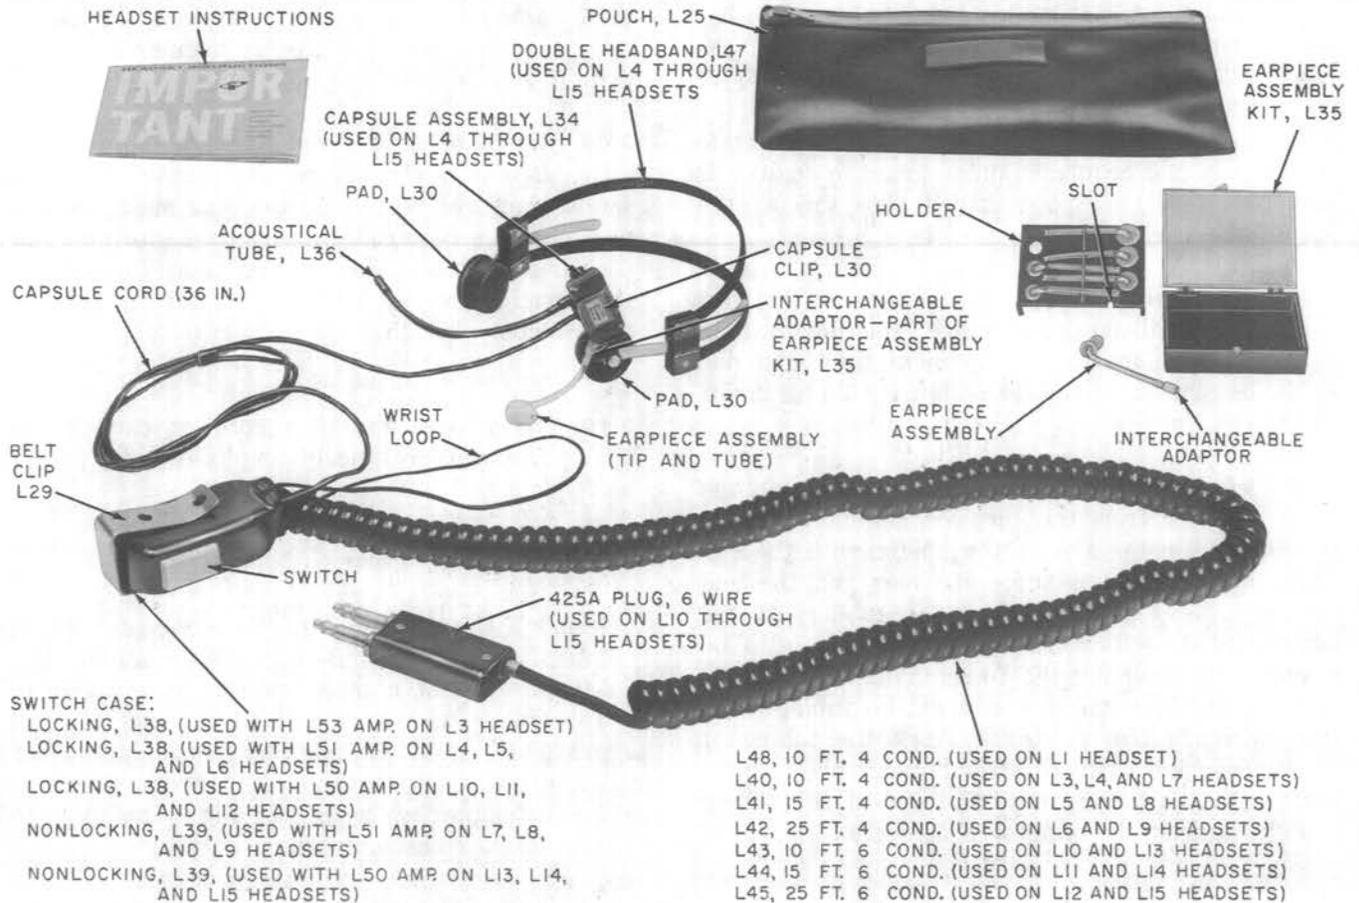

Fig. 3—KS-19796 L13 Head Telephone Set
2.05 Fig. 3 illustrates a KS-19796 L13 head telephone set.